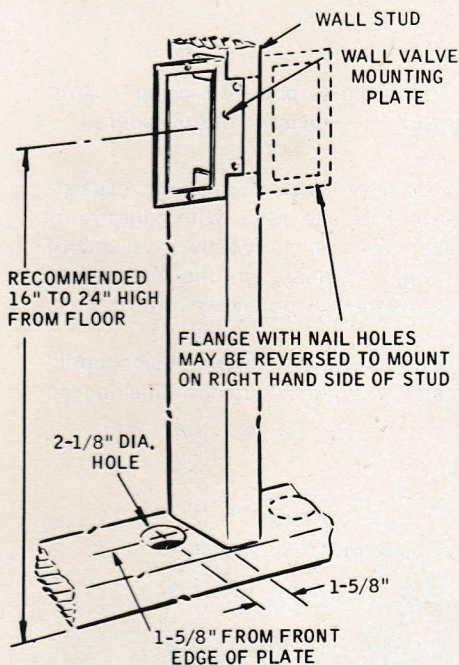

FIGURE 9 – LOCATING VALVE PLATE AND TUBING HOLE
2. Nail valve mounting plate to stud at desired height for each valve. (Figure 9) The plate may be mounted to either the right or left side of the stud.
exhaust or belled side of the 90° elbow of the valve assembly (Figure 9).
3. Drill hole through floor or ceiling plate. Hole should be 1-5/8" back from front of plate to align with the exhaust or belled side of the 90° elbow of the valve assembly (Figure 9).